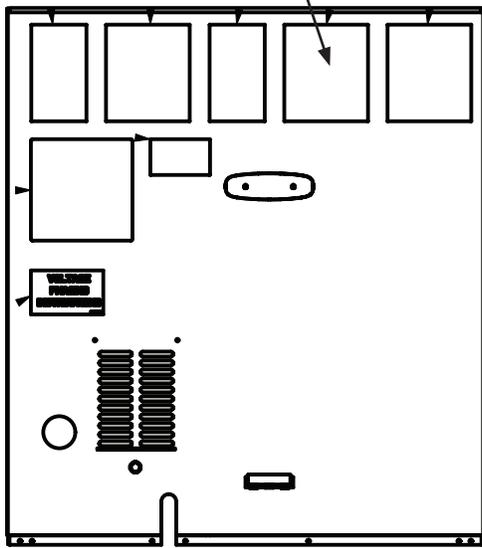

Figure 5B
7. Apply wiring diagram to the control panel. See Figure 5B.